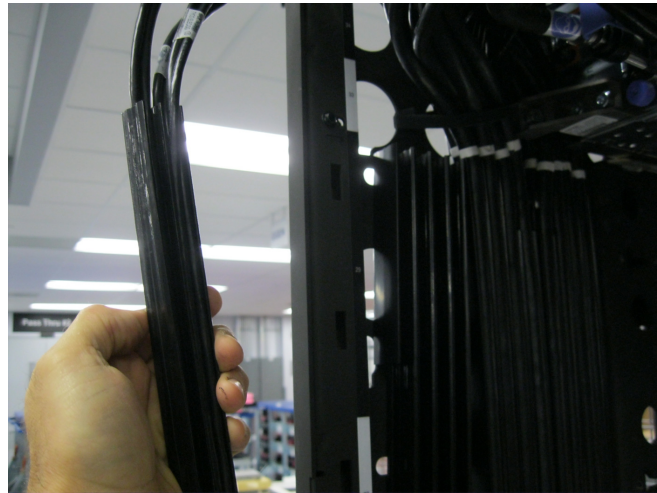

Figure 11 UPIC Raceway Removal
- b) Shift the UPIC raceway upward, then remove it from the rack (see photo in Figure 11).